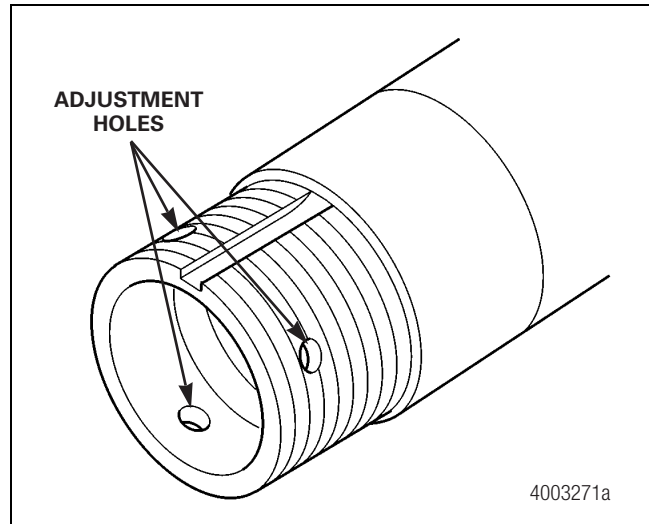

Figure 9.8
- The spindle, consisting of a “TP” style axle drilled with three adjustment holes. Figure 9.8.